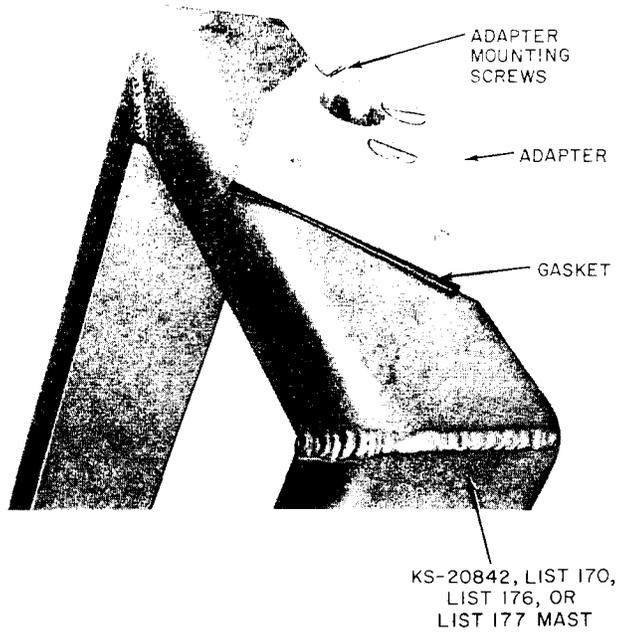

Fig. 15—Installation of KS-20842, List 72 Sign Kit
- (1) Install a KS-20842, List 72 sign kit on top of mast assembly per Fig. 15.